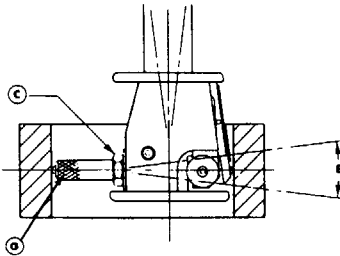

FIGURE 1
- See Figure 1. Screw correct range Gage Point (G) into gaging head.